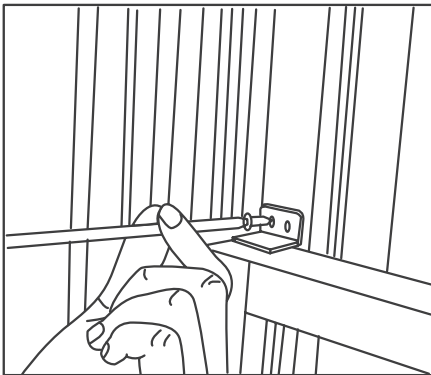

Fig.13
- To secure the lower sash into place, use the sash lock and a 3/4" screw as shown below. (See Fig.13).